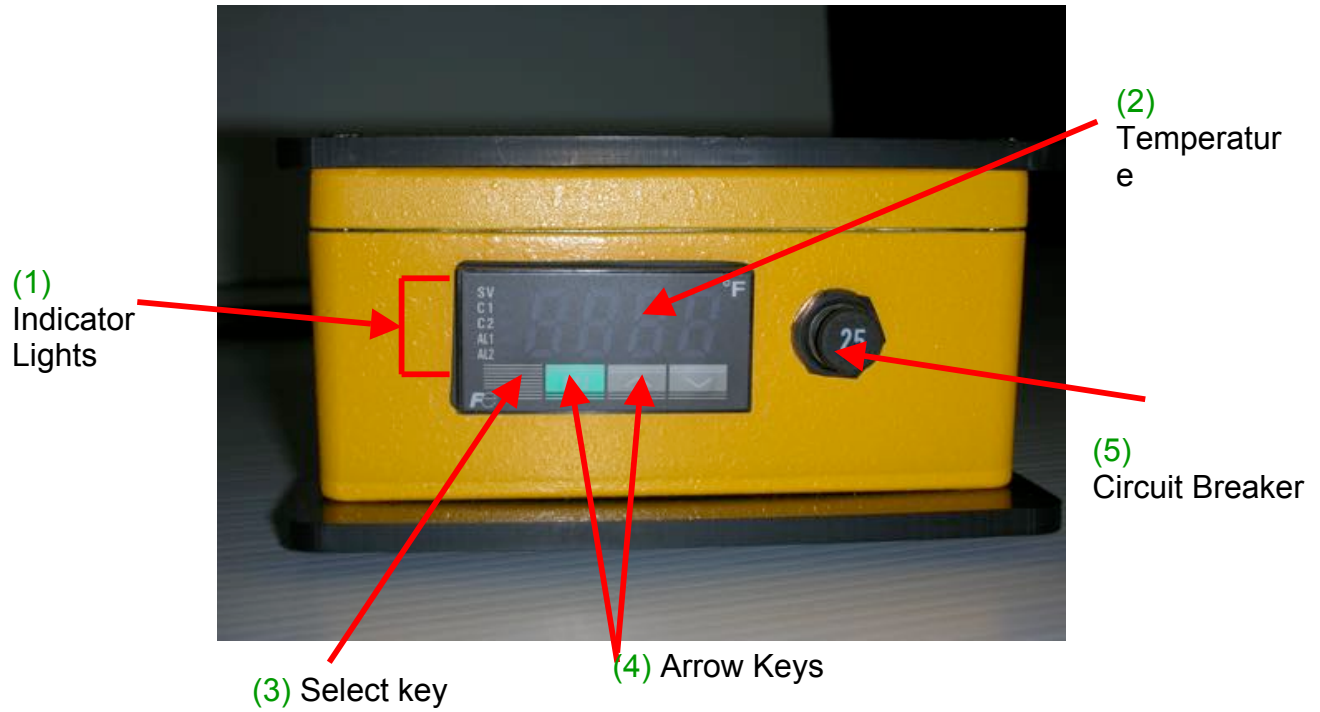
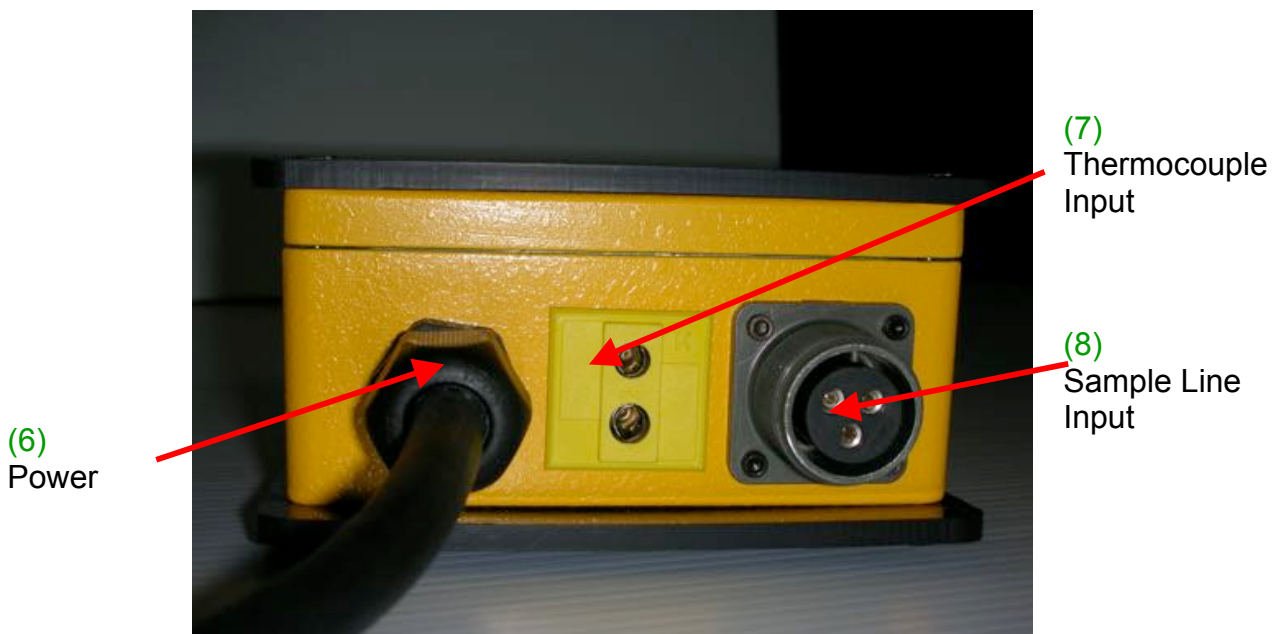

Figure 1
Figure 2
Insert the sample line connector (8) and the thermocouple plug (7) into the corresponding inputs at the back of the unit. Plug the temperature controller into the power source (120V) (see Figure 2). Press the green SEL key (3) to enter select mode and use the arrow keys (4) to select the desired temperature. When in select mode, the SV indicator light (1) will be on and the display (2) will read the temperature that has been selected. Pressing the SEL key (3) in this mode will exit select mode. The SV indicator light (1) will be off and the current temperature of the line will be displayed (see Figure 1).